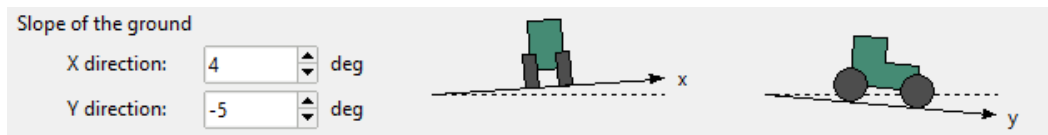

Figure 27. Representation of the slope of the ground.
- **Slope of the ground:** optionally, the user can specify the inclination of the terrain, in degrees, with respect to the horizontal plane (XY). A representation of the entered inclination will appear on the left of the X and Y direction entries (Figure 27). You can remember the axes convention by clicking on the correspondent button.